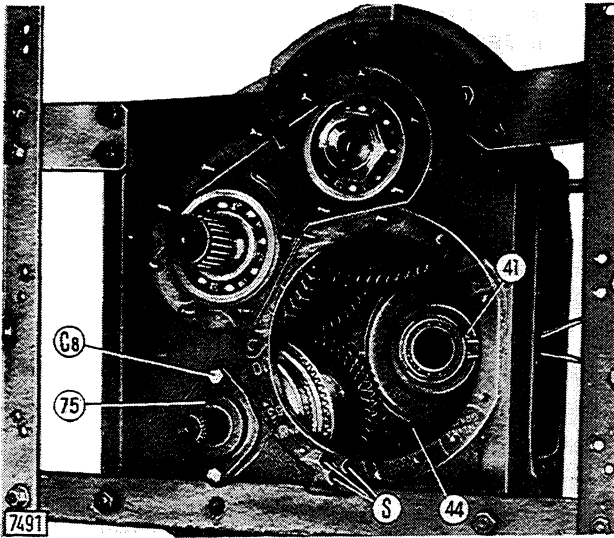
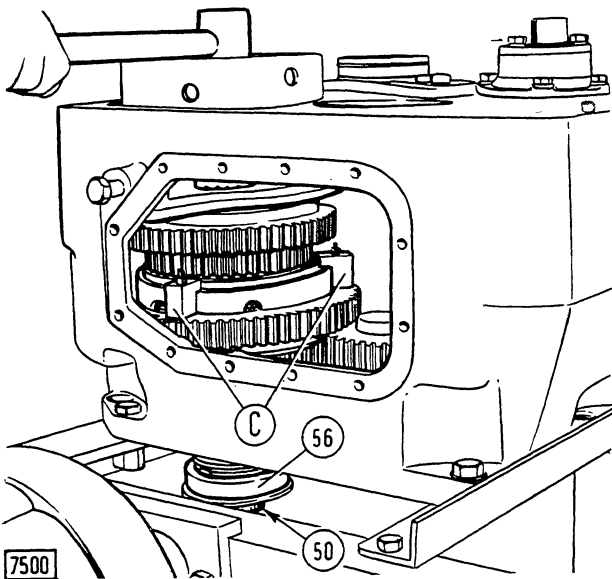
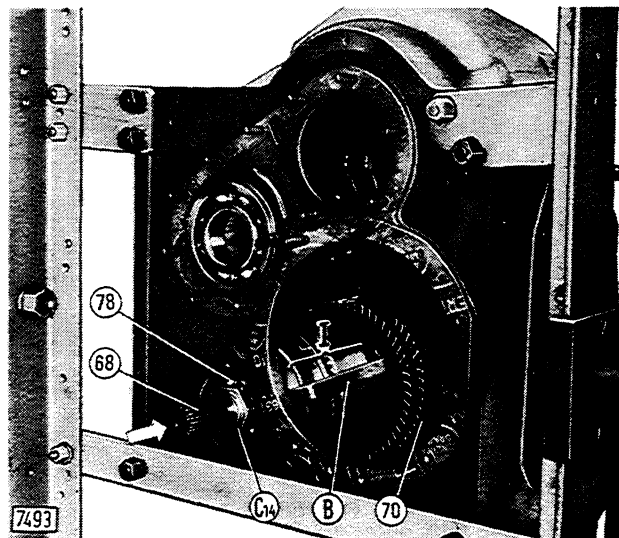

Fig. 16 - Disassembling forward speed driven gear retaining ring (41).
Fig. 17 - Disassembling high/intermediate speed clutch shaft (50).
Fig. 19 - Disassembling reverse speed clutch unit.
- Assemble forward clutch drum (**8, Fig. 17**), position driven gear (**2, Fig. 19**) from inside and secure with retaining ring (**1**).
- Support oil bowl (**5, Fig. 17**) connect lines (**3** and **4**) inserting rear ends in the associated seats (**S, Fig. 31**) and secure the oil bowl by inserting the edge into the line grooves.
- Assemble tubes (**1** and **2, Fig. 17**) and attach lifting hook **75291526 (A, Fig. 16)** to front cover. Assemble front cover using guide pins **75291525 (B)** on housing. Use a drive punch to install the low speed clutch lines in seats on cover.
- Remove drum (45, Fig. 14) and forward speed driven gear (44, Fig. 16), first removing the retaining ring (41).
- Retain high speed clutch with clamps 75291531 as shown in Fig. 17, back off nut (C₁₄, Fig. 14) and remove the intermediate speed clutch pack.
- Place transmission case horizontal with the front end facing upwards and withdraw high/intermediate speed clutch shaft (50, Fig. 17) complete with bearing (56) from the lower end.